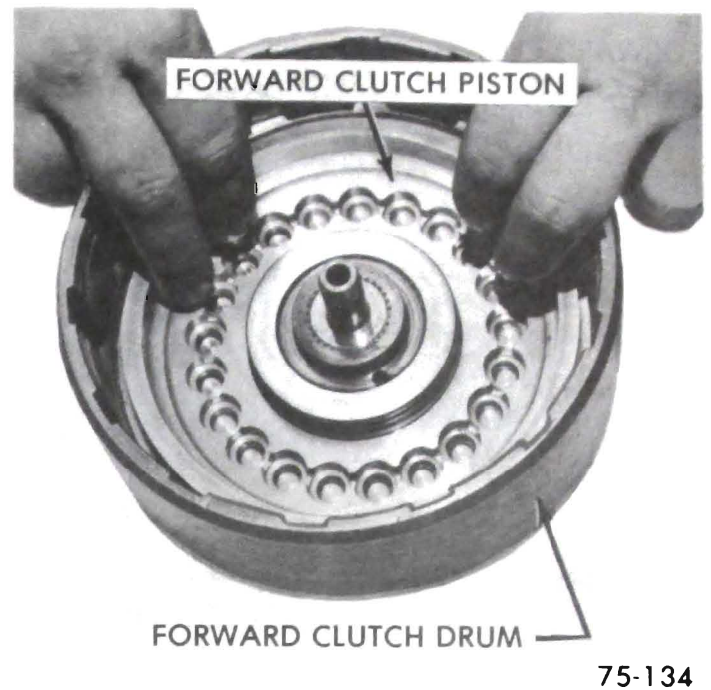

Figure 75-188
7. Remove forward clutch piston assembly. See Figure 75-188.